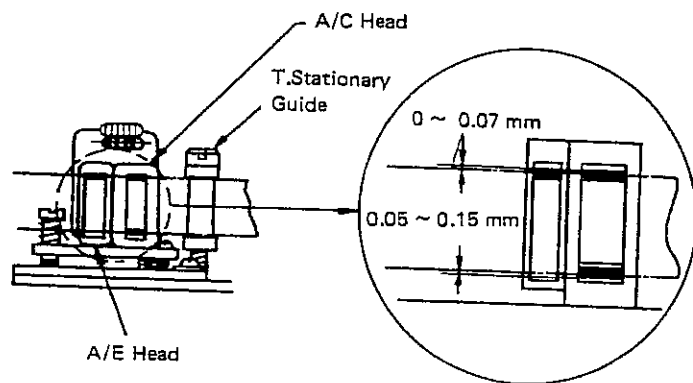

Figure 25
3. Check that the AC head has the height and tilt shown in figure 25 with regard to the tape.
5. The height of the AC head should be positioned with regard to the tape as shown in figure 25.